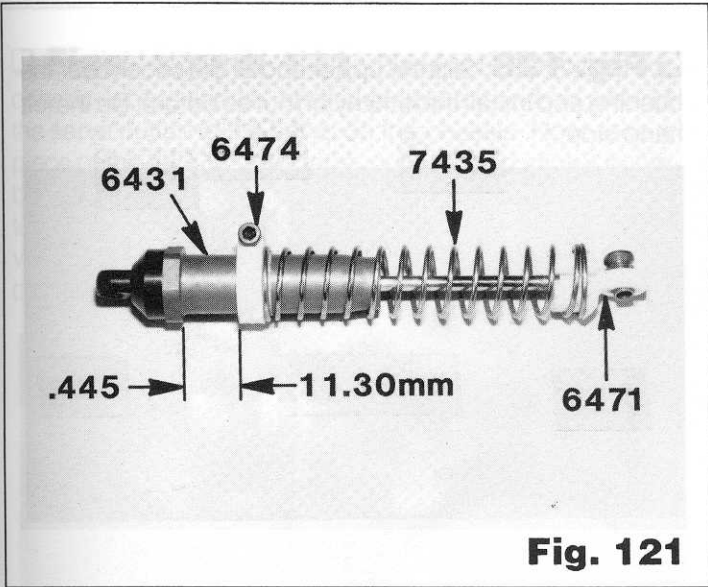

Fig. 121
- **Fig. 121** From Bag 7-11 install the two #6474 spring clamps on the rear shocks. The spring should go over the thin flange. Push the screw through the larger hole of the spring clamp and thread it into the smaller hole to tighten. Tighten the screws just enough to lock the collars. DO NOT overtighten. Take the long gold springs and slip them onto the shocks.